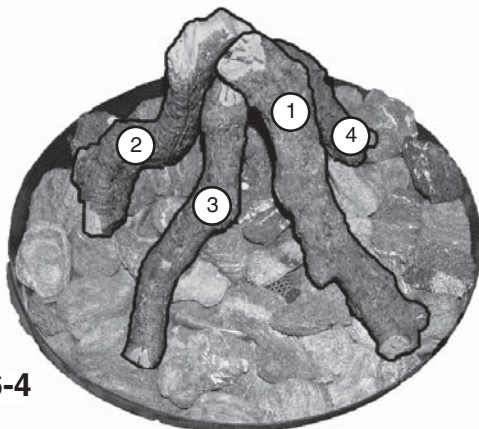

Fig. 16-4
1. Place the ends of three or four logs into the Volcanic Stones with their flat sides facing inward and their tops pointed upward. Then lean their other ends against each other at an angle in the center of the fire ring (see Fig. 16-4).